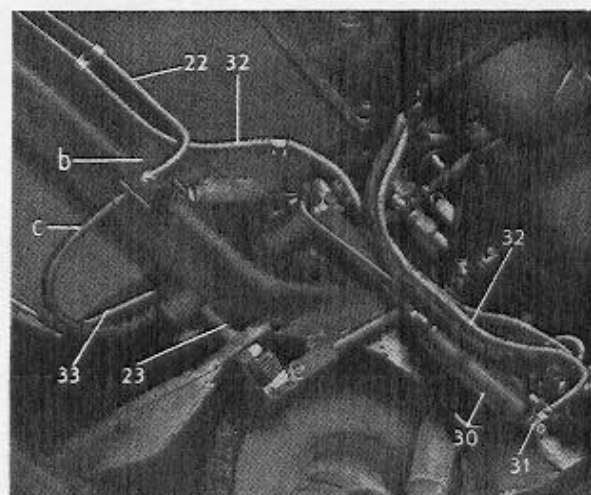

Fig. 19.
1. Remove the connection between the master cylinder (30) and the brake contact and replace it with a two-way junction (31) which is attached by means of a bolt and seal washers. One of the outlets is sealed with a plug. See Fig. 19.